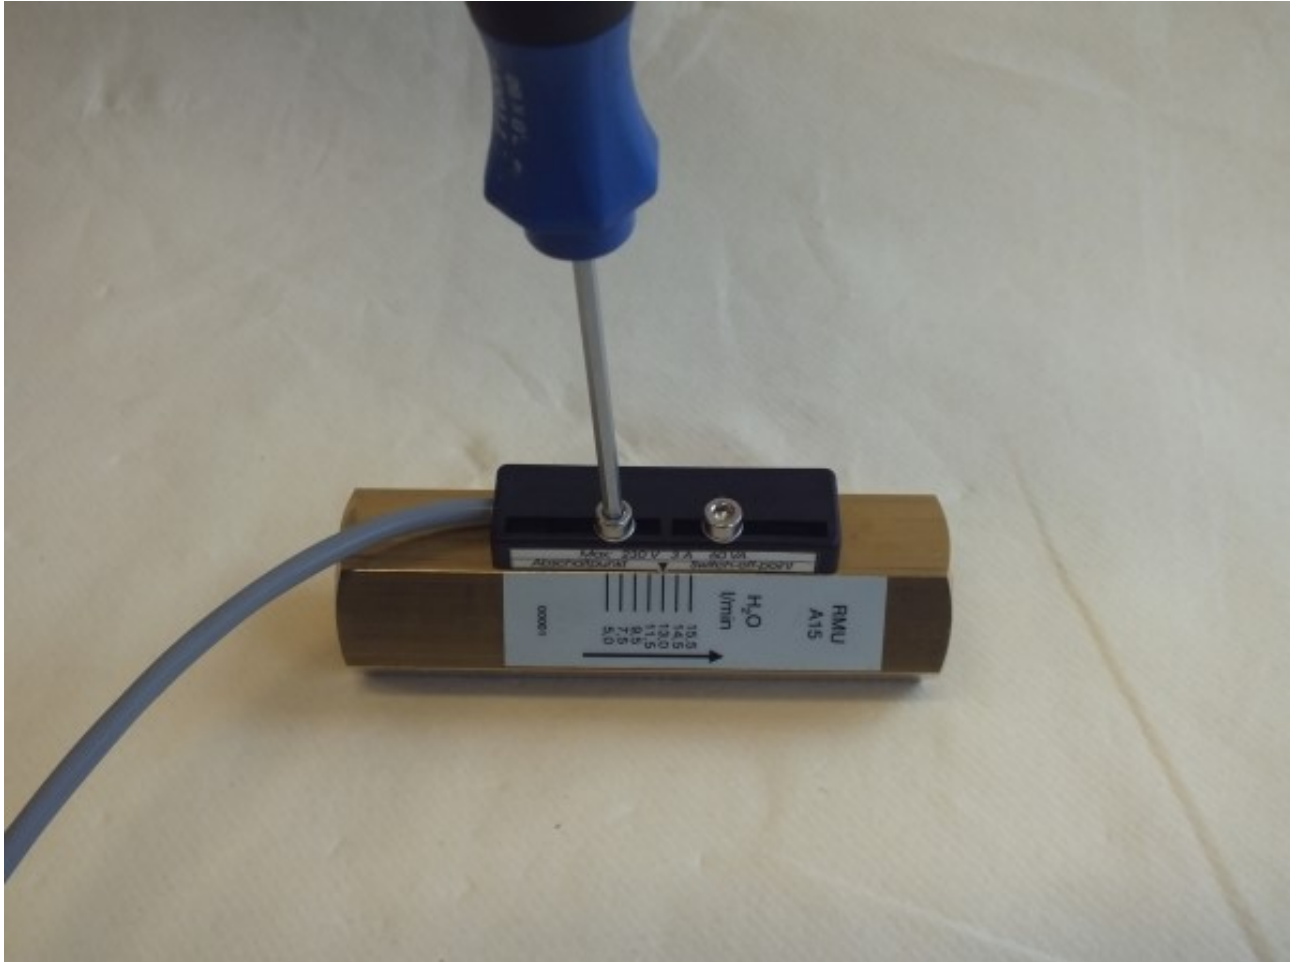

Fig. 32: Loosen set screws
- 1.** ➤ Loosen the set screws (*Fig. 32*) of the switch contact using an appropriate sized hex screwdriver until the switch contact can be removed.
8. ➤ Tighten the set screws (Fig. 32/1) observing the proper tightening torque (➔ Chapter 11.1 "Tightening torque" on page 63)